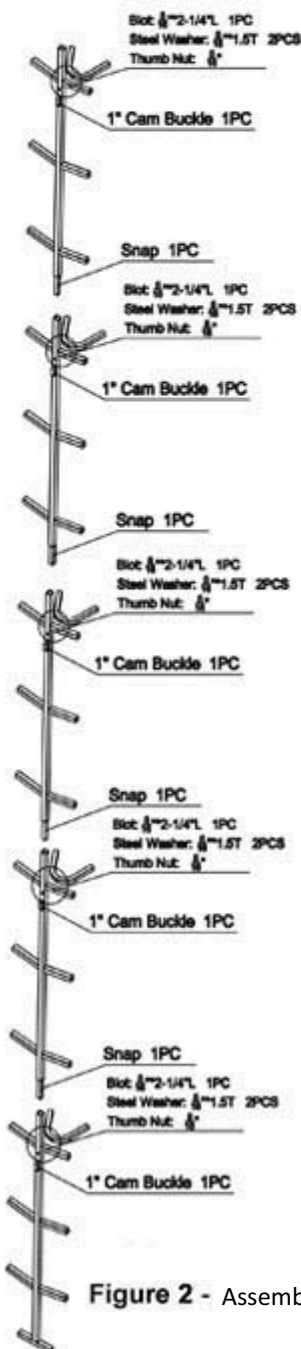

Figure 2 - Assembled Ladder
- Step 4:** While standing on the ground place the bottom (first) ladder section with the Tee Base on the ground at the base of the tree. Position yourself at the middle of the assembled ladder and lift the Ladder into the vertical position (refer to Figure 2). Make sure that all four of the stand off stabilizers are in complete contact with the tree.